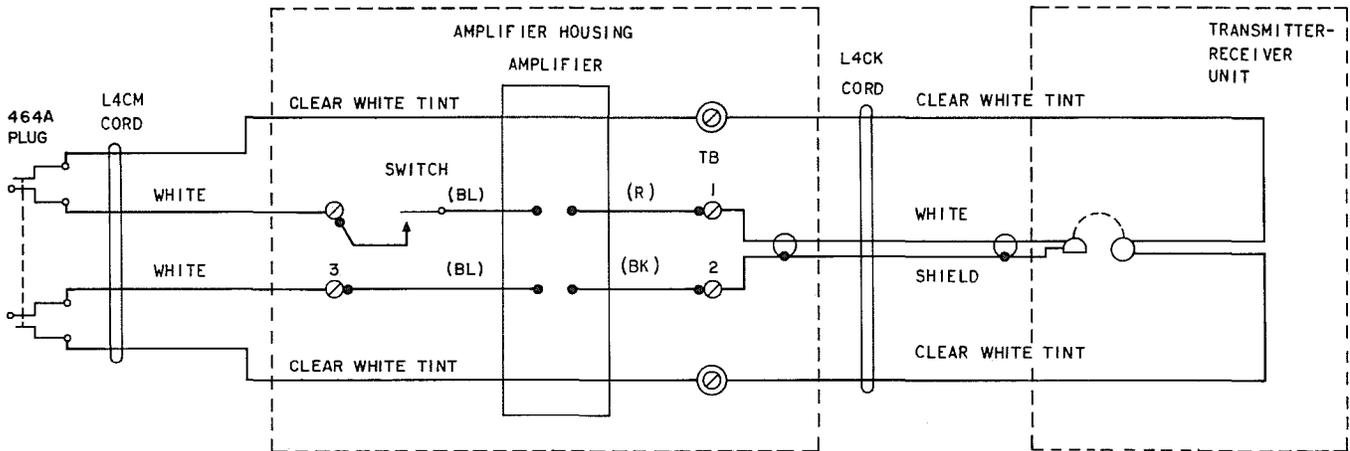

Fig. 8—281A Amplifier Connecting Diagram
3.06 464A Plug: Fig. 4—Remove the plug clamp screws with the KS-6854 screwdriver. Note the color of the cord conductor connections to the terminals. Remove the cord terminal screws using the KS-2348 cord repair tool and remove the cord from the profiling assembly and plug shell. Insert the new cord terminals through the hole in one half of the plug shell and connect to cord terminals as shown in Fig. 8. Place profiling assemblies in shell half and reassemble the parts in the reverse order of removal.
as shown in Fig. 8 and assemble the parts in the reverse order of removal. Dress the leads as originally positioned.
Remove the housing screws using the 3-inch C screwdriver. Open the housing and remove the spring clip. Using the KS-2348 screwdriver remove the terminal screws on the switch. Using the same screwdriver remove the switch mounting screw and lift the switch out. Substitute the new switch and reassemble the reverse order of removal, connecting the leads as shown in Fig. 8. Dress the leads as originally positioned.
using the 3-inch C screwdriver. Open the housing and remove the spring clip. Note the dress of the leads. Using the KS-2348 screwdriver remove the terminal screws holding the printed wiring board terminals and remove the board. Substitute the new board and reassemble in reverse order of removal, connecting the terminal leads as shown in Fig. 8. Dress the leads as originally positioned.
3.13 L4CM Cord: Disconnect the cord at the plug end as covered in 3.06. At the 281A amplifier end, disconnect the cord as covered in 3.10. Substitute the new cord and connect it to the plug and amplifier making sure the conductors are connected to the terminals in the plug and handle as shown in Fig. 8. Reassemble the parts in the reverse order of removal. Dress the leads as originally positioned.
3.14 LACK Cord: Disconnect the cord at the 281A amplifier and as covered in 3.10. At the headset end, remove the housing screws using the KS-6854 screwdriver and remove the cap assembly. Remove the old cord and substitute the terminal board end of the new cord in the headset. Connect the new cord to the amplifier as shown in Fig. 8. Reassemble the parts in the reverse order of removal. Dress the leads as originally positioned.